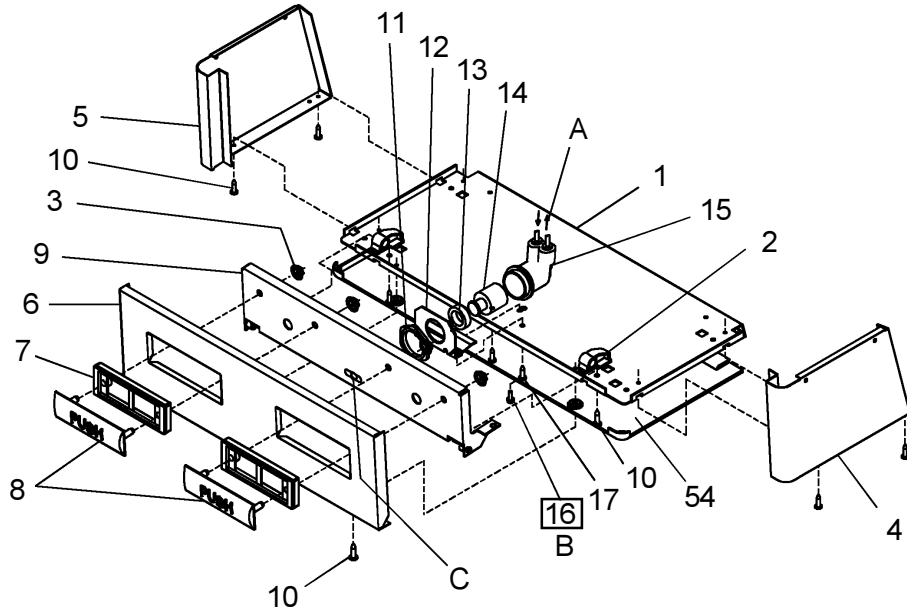

FIG. 3
See Fig. 3 (on Page 3)
- 8) Stream height is factory set at 45-50 PSI. If supply pressure varies greatly from this, readjust stream height to approximately 1-1/2" (38mm) above the bubbler guard by turning adjustment screw, accessible by removing front push panel, Item No.6 (see Fig. 3).
- 10) Replace the front panel and secure by retightening four (4) screws.